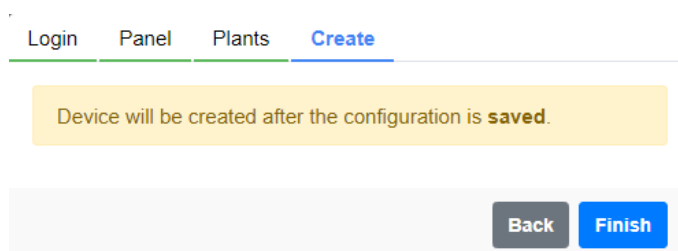

Figure 6.18: Information about creating the Drive Scan MFM
Step 13 Step 13 It is informed that the Drive Scan will be created in the MFM after the configuration is saved, as shown in Figure 6.18.